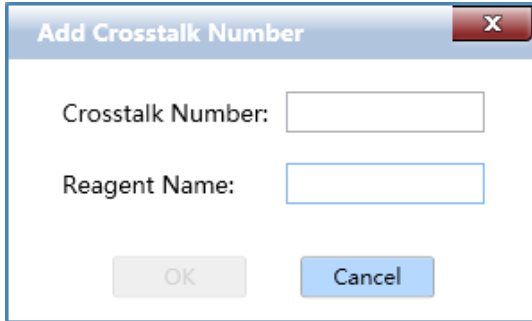

Figure E-3.7a. Add Crosstalk Number-Add
The software will automatically pop up add crosstalk number interface by clicking Add, as shown in figure E-3.7a.
- ▶ **Default Path** tab: The configuration management interface displays the **Default Path** tab by default, as shown in figure E-3.7a. Users can set the default path for saving run parameter template, sample parameter template and other experiment files in **Default Path** tab.